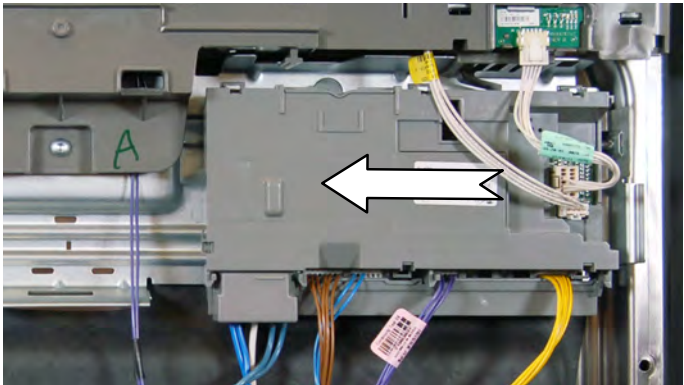

Figure 4 - Slide Control to Left
4. Slide the electronic control to the left to unhook the tabs on the back of the control from the slots in the door bracket, see Figure 4.